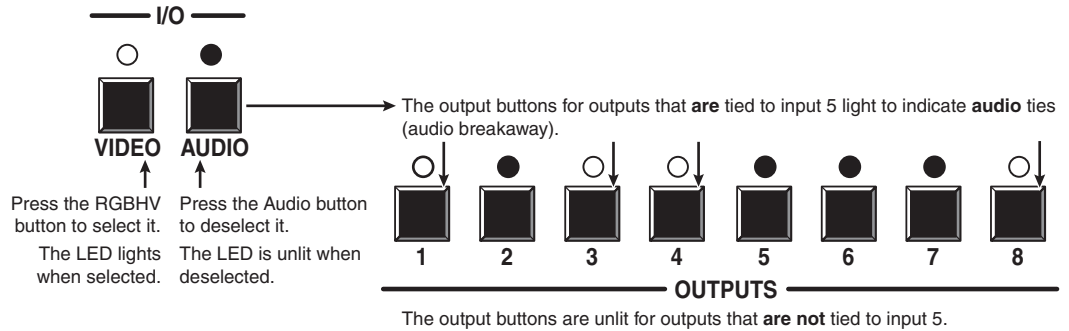

Figure 3-25 — Deselect audio and select RGBHV to view RGBHV only
6. Press and release the RGBHV button and the Audio button to toggle the RGBHV LED lit and the Audio LED unlit (figure 3-25).